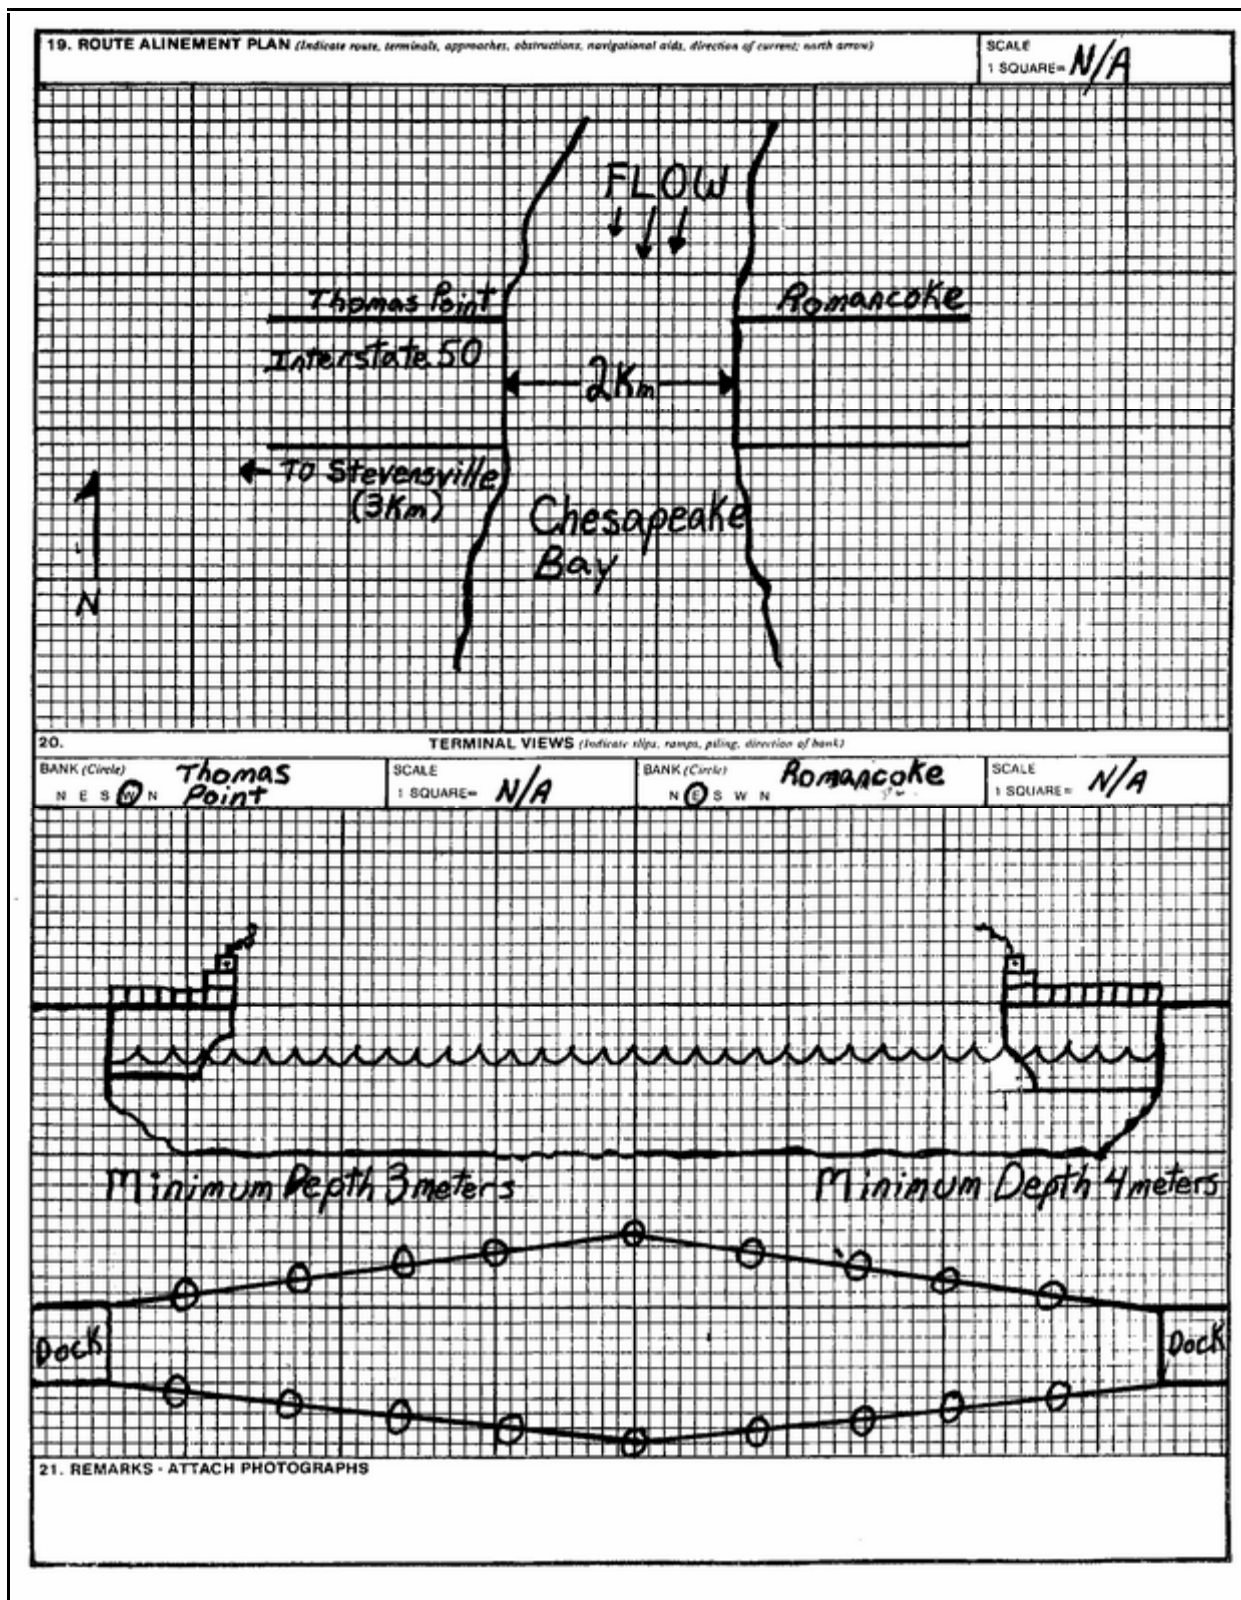

Figure 2-13. Sample Ferry Reconnaissance Report, Reverse
2-9. Ferry Reconnaissance Report Form (DA Form 1252). When more detailed information is needed about a ferry or a ferry site, a *DA Form 1252 (Figure 2-12 and Figure 2-13, page 2-24)* is used to provide a permanent record of ferry information. Information is recorded on the ferry reconnaissance report as follows:
- **Items 19 and 20.** Draw a sketch showing the route alignment plan and two sketches showing terminal views on both sides of the crossing. The route alignment plan should indicate the geographical course of the ferry, terminals, and approaches to the slips. Take particular care in recording instructions. Show navigational aids (such as buoys and lights). Make two separate sketches showing each terminal, including the geographical position of each bay and details of the slips, ramps, and bumper piles (*Figure 2-13*).